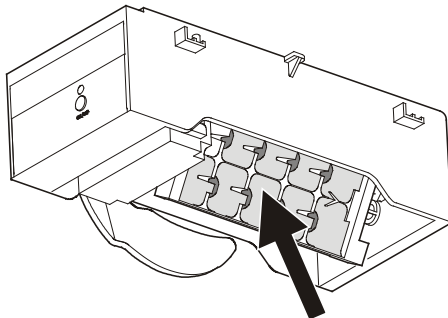

Figure 25
- After this the Ice Maker tray (**Figure 25**) must be emptied. Refer to chapter "Ice Maker at vacations".
In case of longer vacations, the Ice Maker tray (arrow in **Figure 25**) should be emptied.
When the interior temperature appears in the display, the tray is in the down position (**Figure 25**) and the ice maker is turned off automatically.